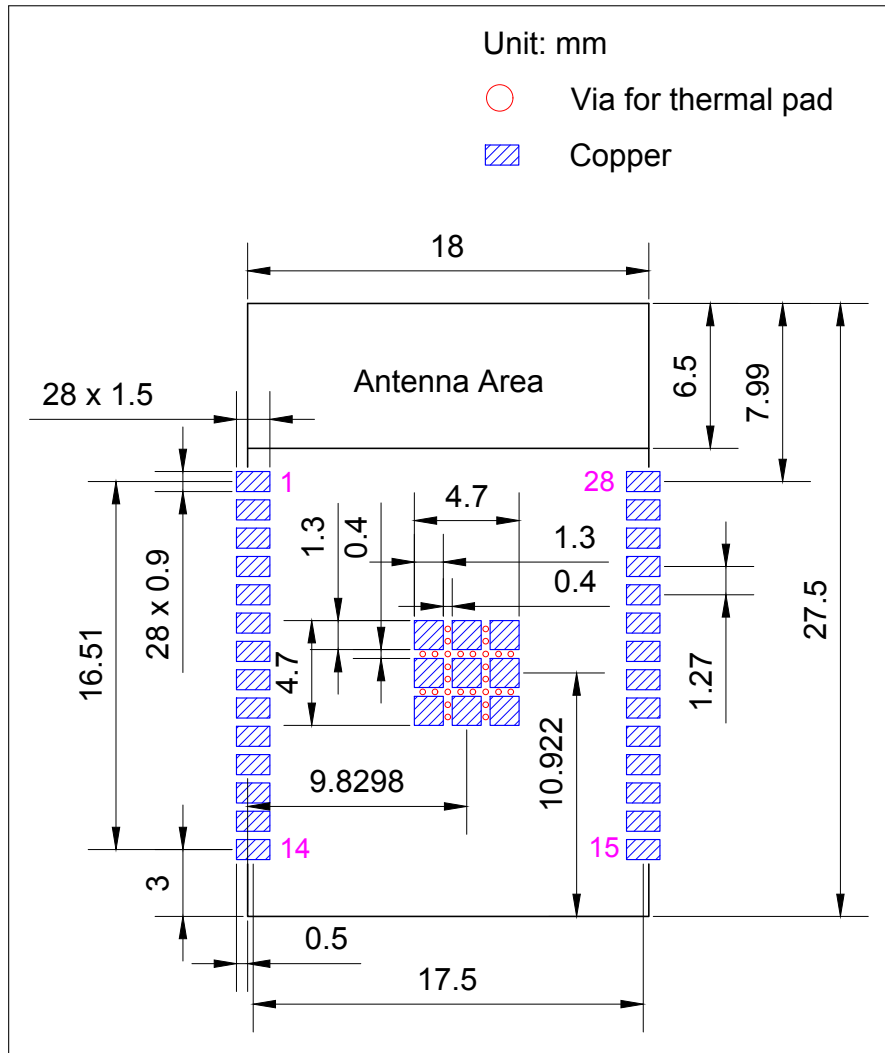
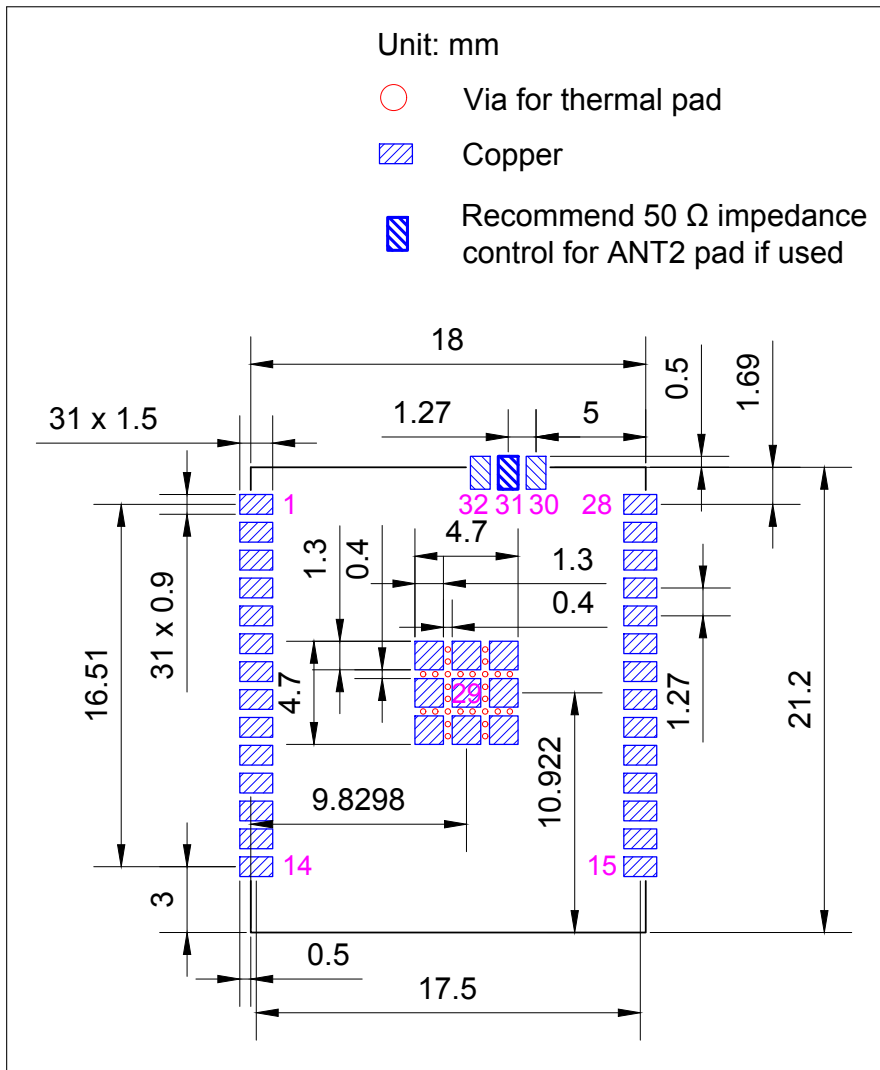

Figure 11-1. ESP32-C5-WROOM-1 PCB Land Pattern
Figure 11-2. ESP32-C5-WROOM-1U PCB Land Pattern
- Figures for recommended PCB land patterns with all the dimensions needed for PCB design. See Figure 11-1 *ESP32-C5-WROOM-1 PCB Land Pattern* and Figure 11-2 *ESP32-C5-WROOM-1U PCB Land Pattern*.